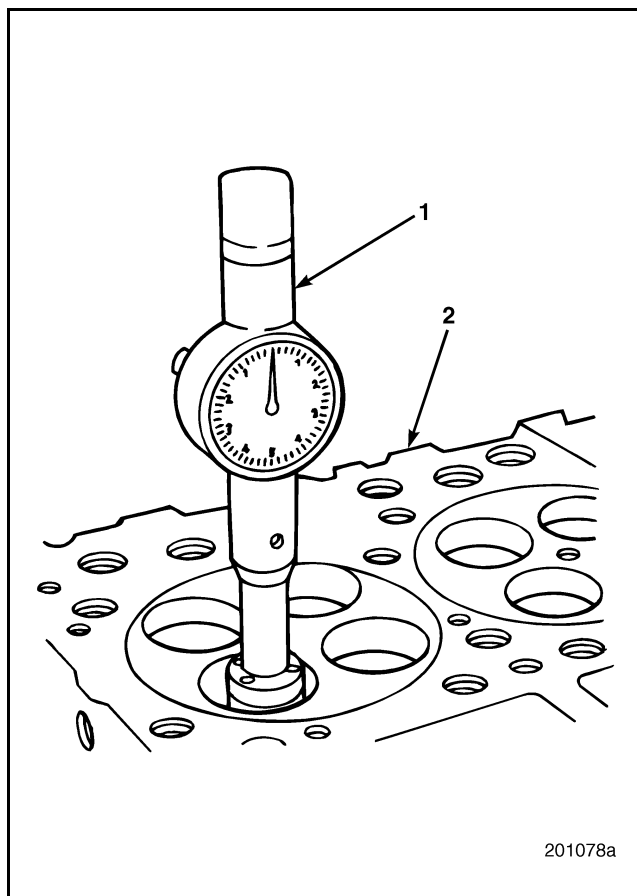

Figure 197 — Checking Counterbore Dimensions
2. Check the surface finish for smoothness. Check the counterbore diameter (Figure 197) with an inside diameter micrometer. Compare to specification.